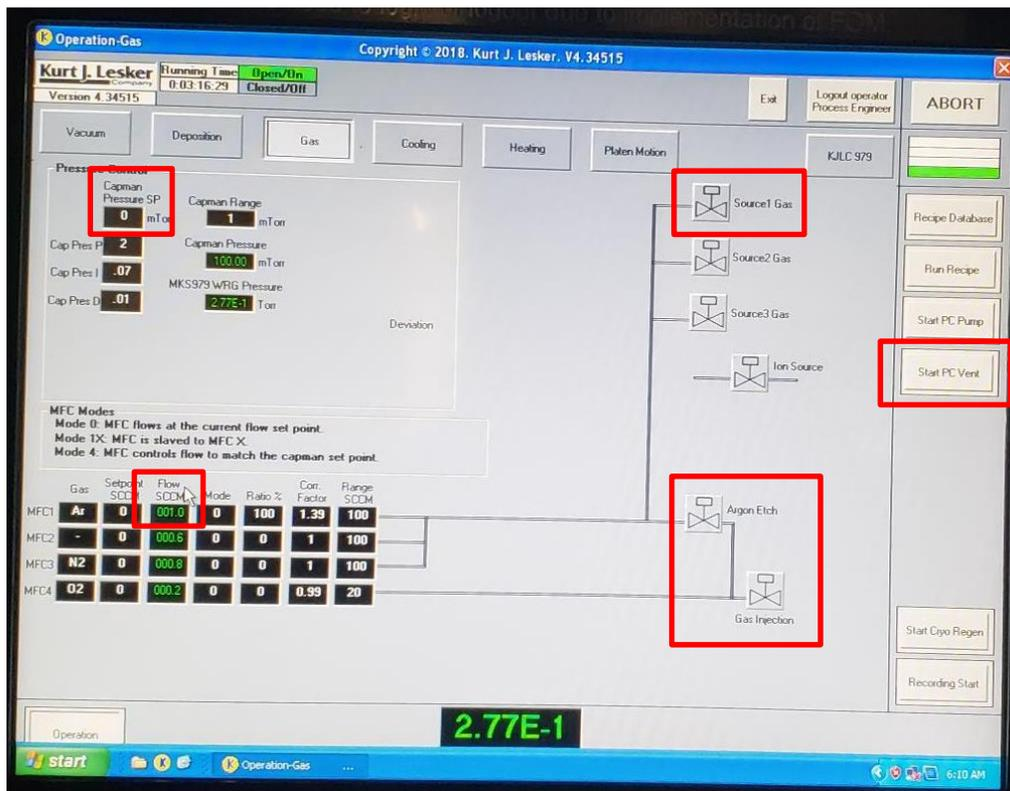

Figure 5. Additional gas lines to be turned on for Substrate Voltage Bias.
4. Select the **Gas** tab, Figure 5. Argon gas flow may be controlled via **constant pressure** or **constant flow rate**.
- a. Open the source valve for the sputtering head to be used, such as **Source 1 Gas** for head #1, Figure 5.
- b. Enter **4** in the mode window of MFC1, Figure 5.
- c. Enter a target pressure in mTorr (i.e. 5) in the window below **Capman Pressure SP**, Figure 5. Argon flow should begin and the pressure should approach the set point.
1. On the **Gas** tab, Figure 5, turn on the **Argon Etch** and **Gas Injection** and other regular gas selections to perform standard sputtering.
2. Turn off all **Source # Gas** flows, return the **Capman Pressure SP** and the **Flow SCCM** to zero, Figure 5.
4. Press **Start PC Vent**, Figure 5. This will close all shutters, turn off the gas flow and switch off all power supplies before venting.
6. Press **Start PC Pump**, Figure 5, and leave the system under vacuum.